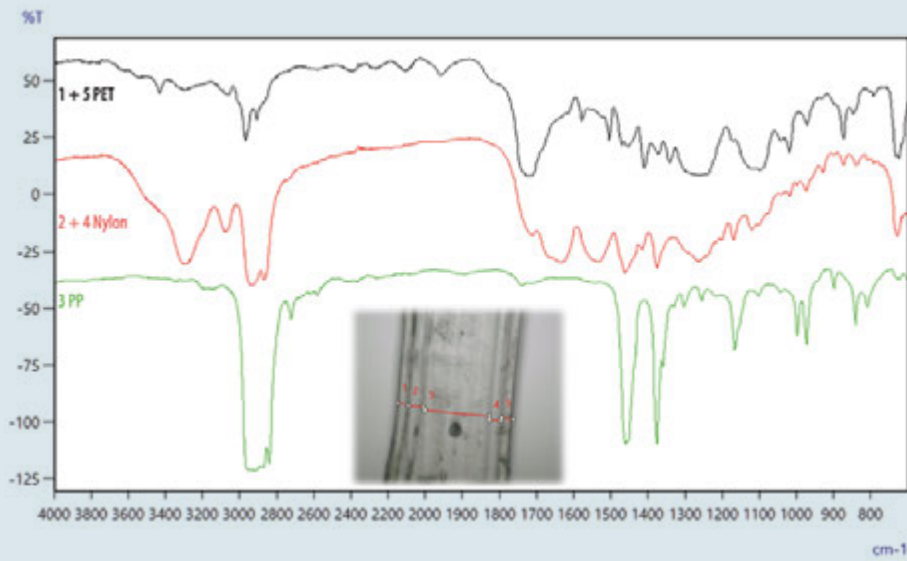

Figure 6: FTIR spectra of the different layers
Optically, five different layers could be distinguished within the cross-section, and infrared spectroscopy was used for their chemical identification. Although five individual layers were detected by FTIR analysis, only three different materials were determined. Starting from the outer surfaces and moving toward the center of the film, the outer layers were found to consist of polyethylene terephthalate (PET), followed by layers of nylon, while the central layer was identified as polypropylene (PP) (Figure 6).